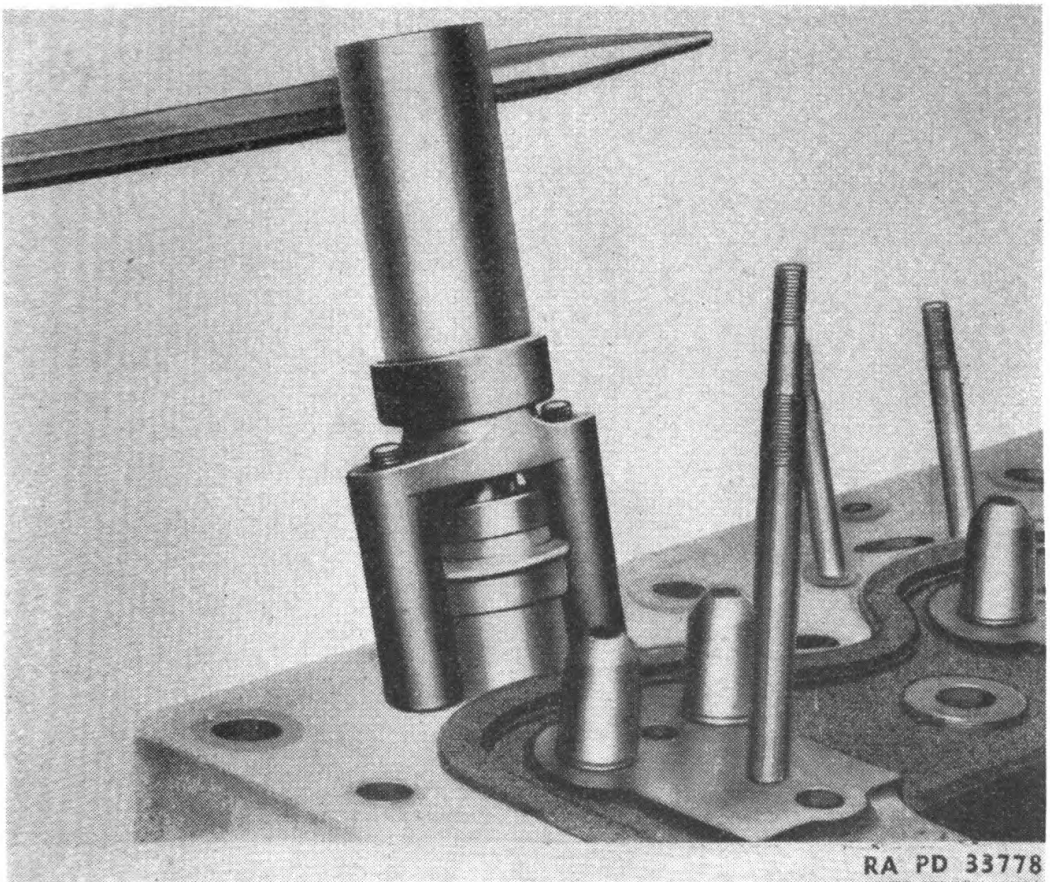
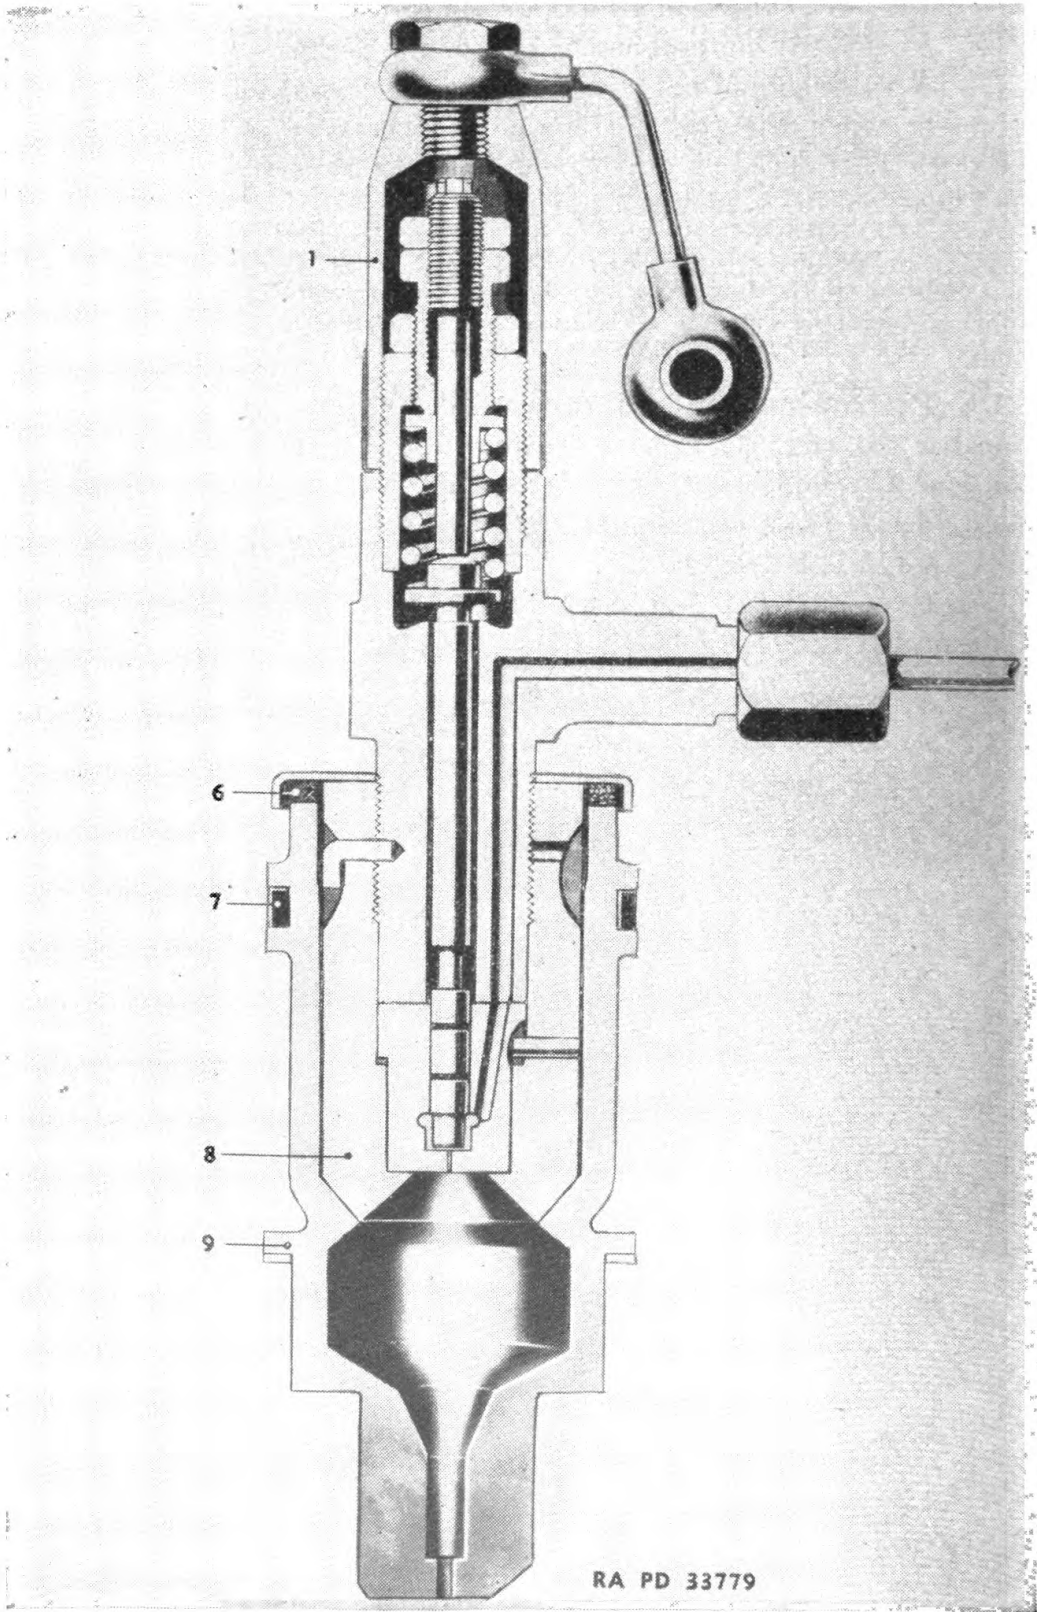

FIGURE 57.—Reinstalling the precombustion chamber.
FIGURE 58.—Injection valve.
b. In installation, a new gasket (9) (fig. 58) and seal (7) should be used. Coat the seal with soap and take care that the seal is not sheared as the precombustion chamber is driven into the head.
c. In reinstalling the injection valve (fig. 57) make certain the tapered end of the valve at (8) (fig. 58) and its seat in the precombustion chamber are perfectly clean and that the gasket (6) is in place.
The clamp nuts (2) (fig. 55) should be drawn down evenly and with only sufficient tension to prevent leaks between the valve and valve seat. Excessive tightening may force the tapered end (8) (fig. 58) of the injection valve into its seat sufficiently to cause permanent damage to the valve and may even break the cylinder head.